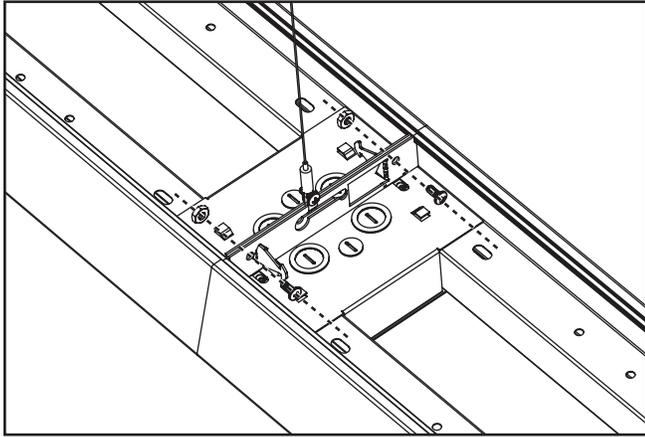

Figure 8.
- Secure fixtures using two 10-32 x 3/8" screws and nuts. Tighten 1/4 turn past hand-tight. (Figure 8.)